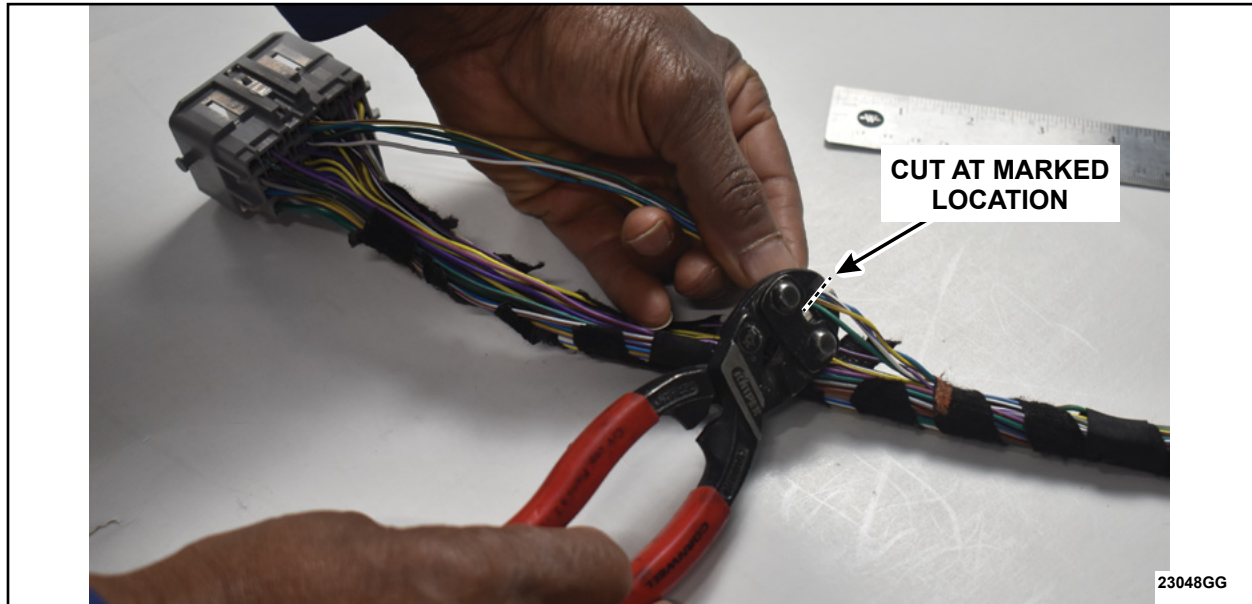

FIGURE 8
8. Cut all four (4) wires at their marked location. See Figure 8.